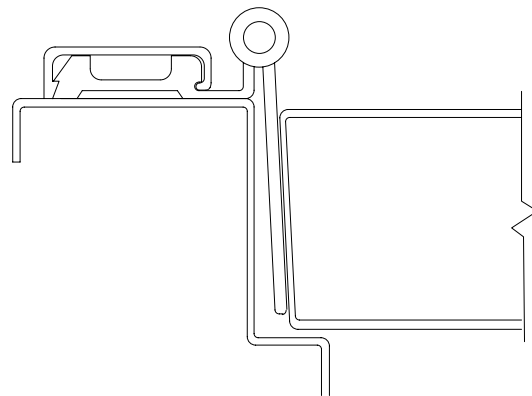

FIGURE 2d
3. The Half Edge Mounted Continuous Hinge, Figure 2d, has one leaf mounted to the frame face and the other leaf mounted to the door edge.